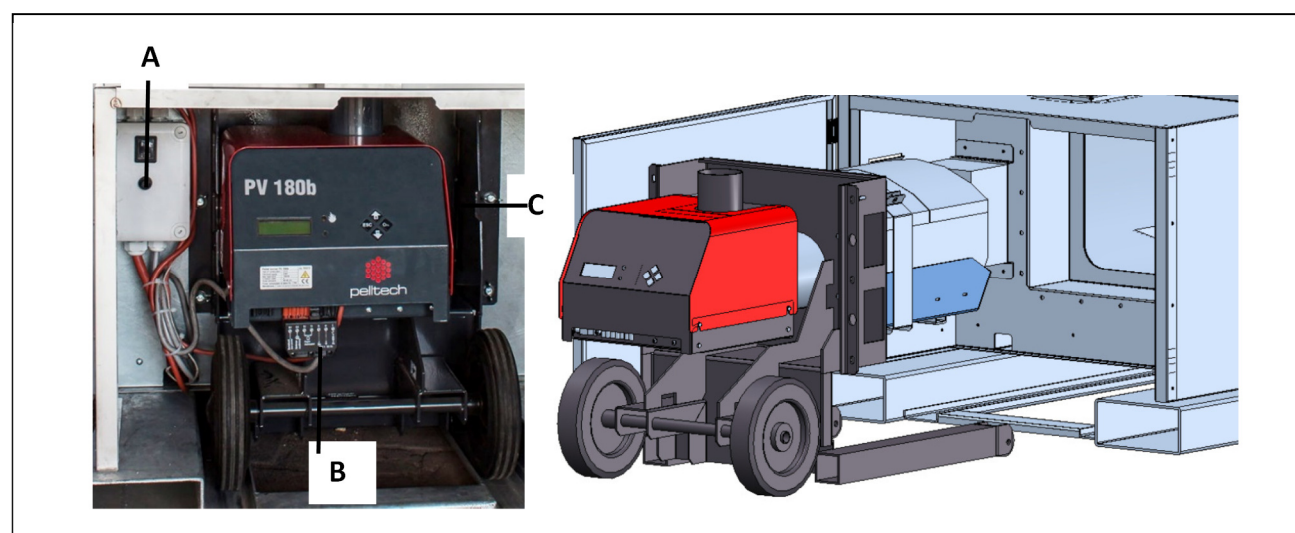

Fig 3
**1.3 Icons on the burner (Fig. 3)**